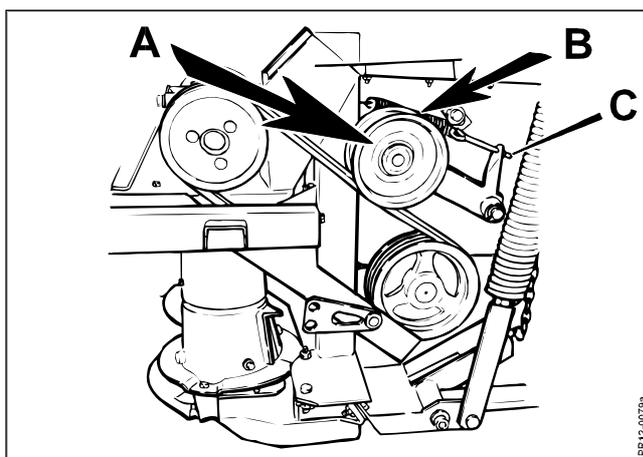

Fig. 5-13
- Fig. 5-13 The V-belts driving the conditioner rotor are tightened with the tension pulley A. The tension pulley is tightened automatically by a spring B. The spring should be adjusted so that there is always at least 1-2 mm distance between the spring coils. Adjustment is made by means of a nut at C.